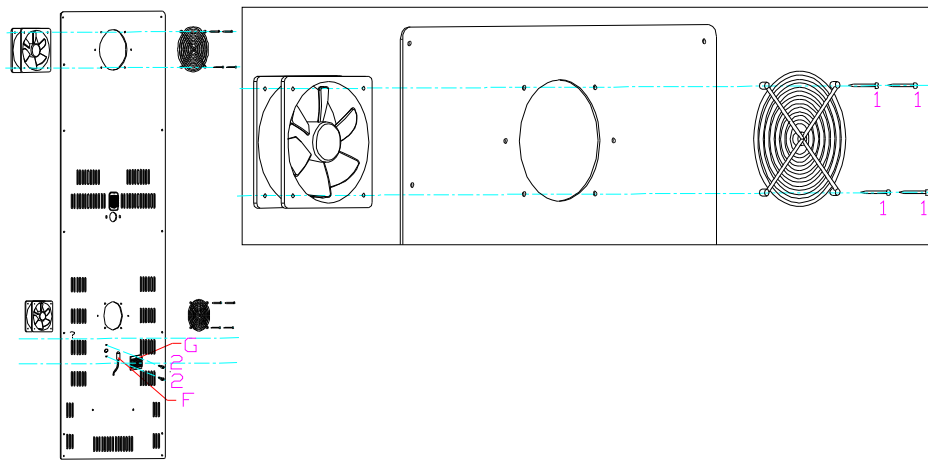
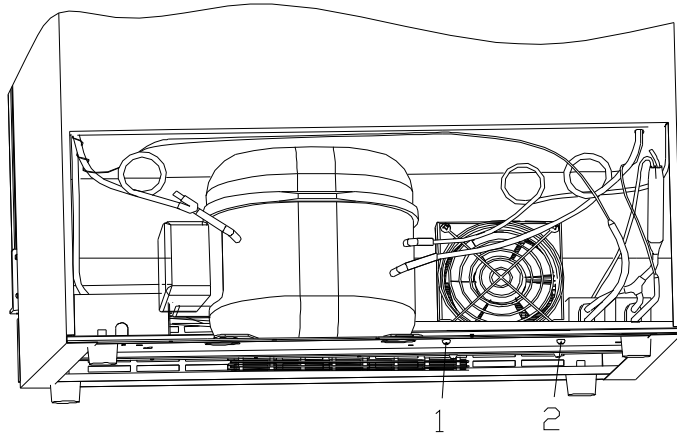
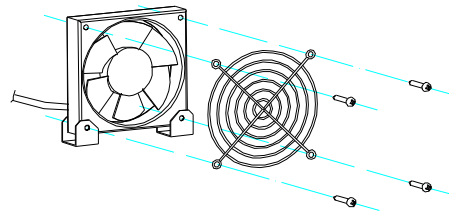

Fig. 5
Fig. 6
Fig.6.1
3>. Remove 4 fixing screws(1) of the fan, replace it with new one. (Fig.5)
b. lean back the unit with angle 45° ,remove the fixing screws(1,2) of the fan from bottom of the compressor branket with crossing head screwdriver. and replace it. (→5) (Fig.6 & Fig.6.1)
2 >.If the fan is damaged seriously or broken, replace it with the new fan(Fig.5)
The unstable temperature is caused by the evaporator fans cease, and it can be check by the below method: When the compressor is running, the light “Run” is on, the fan should be running, if the fan stop, check the whether is any fault in the fan or fan connection. If the fan is broken, replace it with the fan of the same model. (→5) (Fig.5 & Fig. 6 & Fig. 6.1).
1>. The LED display shows E1, and it is the upper zone’s sensor open circuit fault, check the connection wire and the main board whether plough, if not , replace the sensor with the same module. See(→5) (Fig.5.)
2>. If the LED displays “E2” indicates upper zone’s sensor short circuit fault, check the connection wire and the main board whether it is in good condition, if yes, the sensor should be replaced see (→5) (Fig.5)
3>. The LED display shows E3, and it is the middle zone’s sensor open circuit fault, check the connection wire and the main board whether plough, if not, replace the sensor with the same module. See(→5) (Fig.5.)
4>. If the LED displays “E4” indicates middle zone’s sensor short circuit fault, check the connection wire and the main board whether it is in good condition, if yes, the sensor should be replaced see (→5) (Fig.5)
5>. The LED display shows E7, and it is the lower zone’s sensor open circuit fault, check the connection wire and the main board whether plough, if not, replace the sensor with the same module. See(→5) (Fig.5.)
6>. If the LED displays “E8” indicates the lower zone’s sensor short circuit fault, check the connection wire and the main board whether it is in good condition, if yes, the sensor should be replaced see (→5) (Fig.5)
2>. Remove the air-duct board (→5) (Fig. 6& Fig. 6.1)
3>. Pull out 2 fixing plastic nails(2),the cover of the sensor will loose down, take away the sensor(F),replace it(→5) (Fig.5).